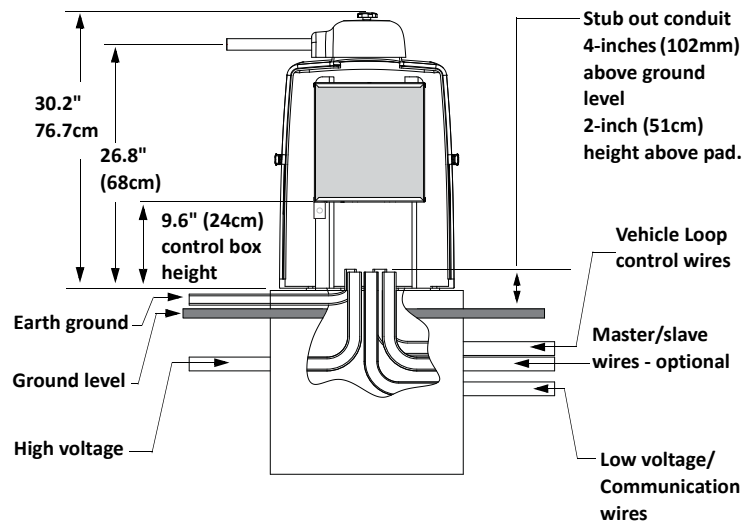
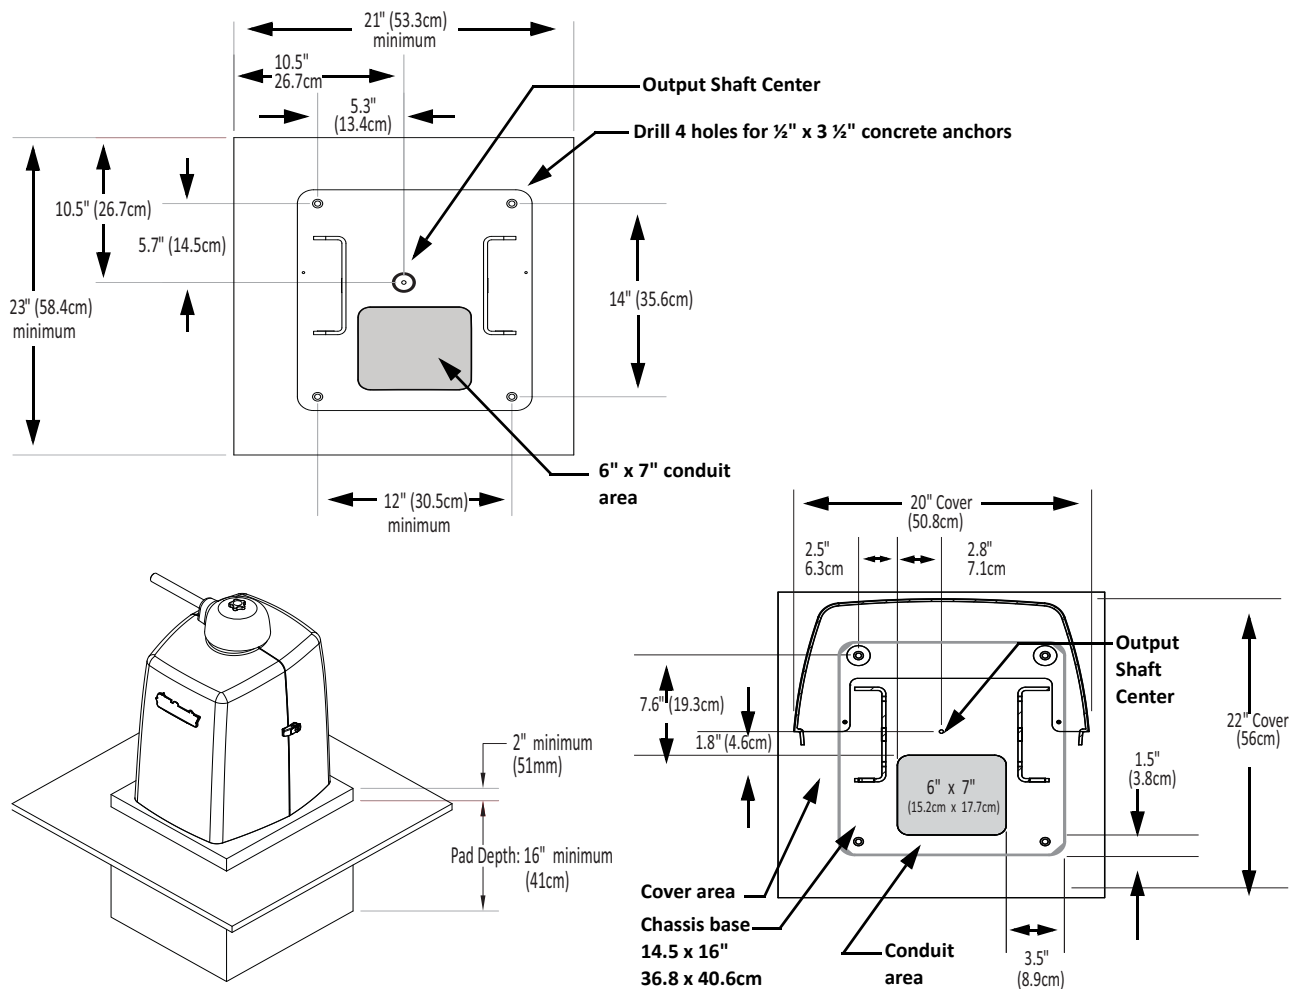
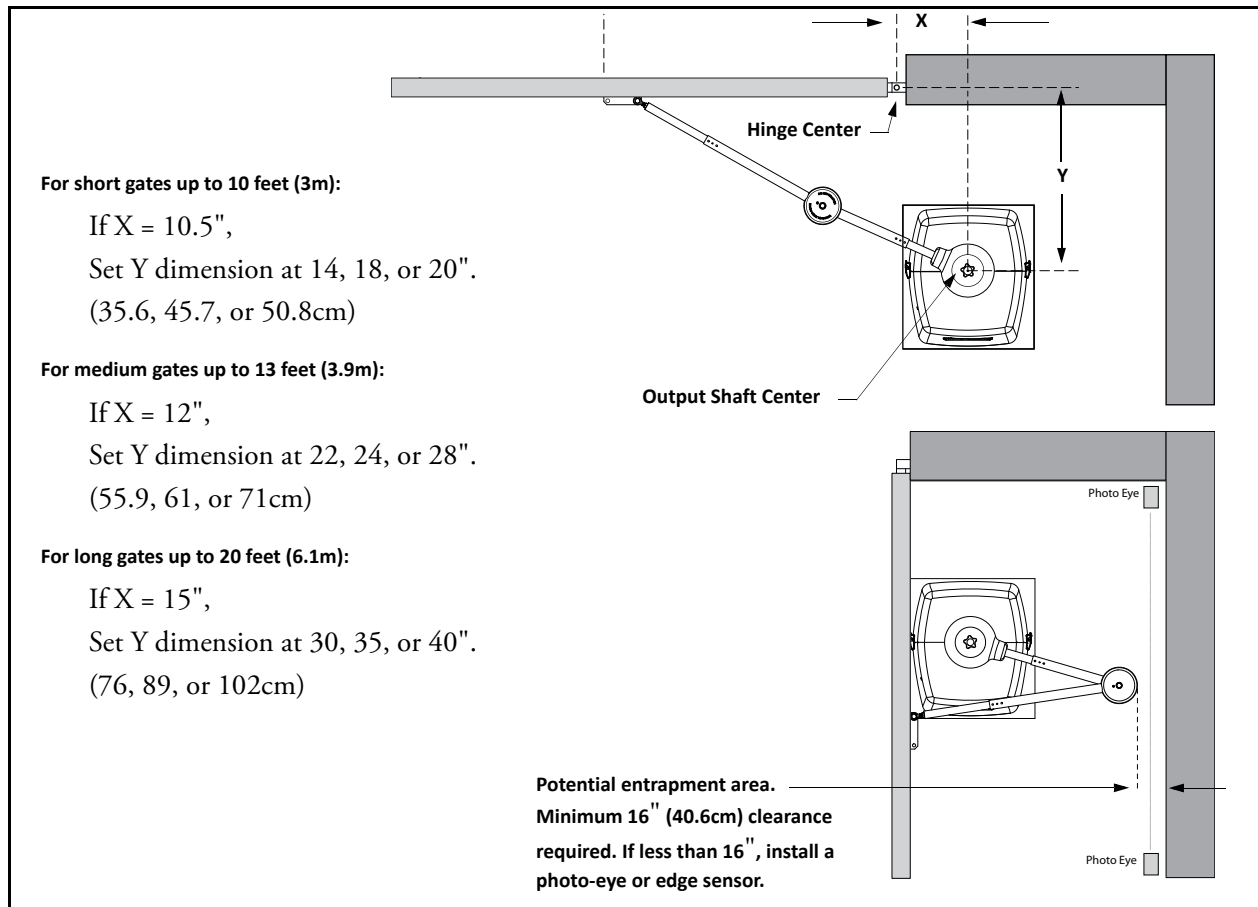

Figure 1-2.
Figure 1-3.
Figure 1-5.
1. Follow the local building codes to identify the frost line and determine the required depth of the concrete pad. HySecurity recommends a minimum 16-inch (40.6cm) depth with a minimum 2-inch (51cm) extension above ground level. Refer to Figure 1-2 and Figure 1-3.
2. Before pouring the pad, consider conduit placement so it fits within the confines of the cutout in the SwingSmart base plate as shown in Figure 1-3. Run separate conduits for:
SwingSmart provides a 6 x 7-inch (15.2 x 17.7cm) cutout in its chassis base for conduit. Refer to Figure 1-3. The design also provides a 9.6-inch (24.4cm) height between the control box and chassis base for pulling and placement of wires.
3. Extend conduit height 2-inches (51mm) above the pad (4-inches/102mm above ground level). Make sure the concrete forms are square with the gate and the pad is level. Refer to Figure 1-3 for minimum pad dimensions.
- Appropriate distance from the gate. Refer to Figure 1-3.
2. Before placing the operator on the pad, measure and mark the output shaft center on the concrete pad by selecting the X and Y dimensions. Refer to Figure 1-3 and Figure 1-5.